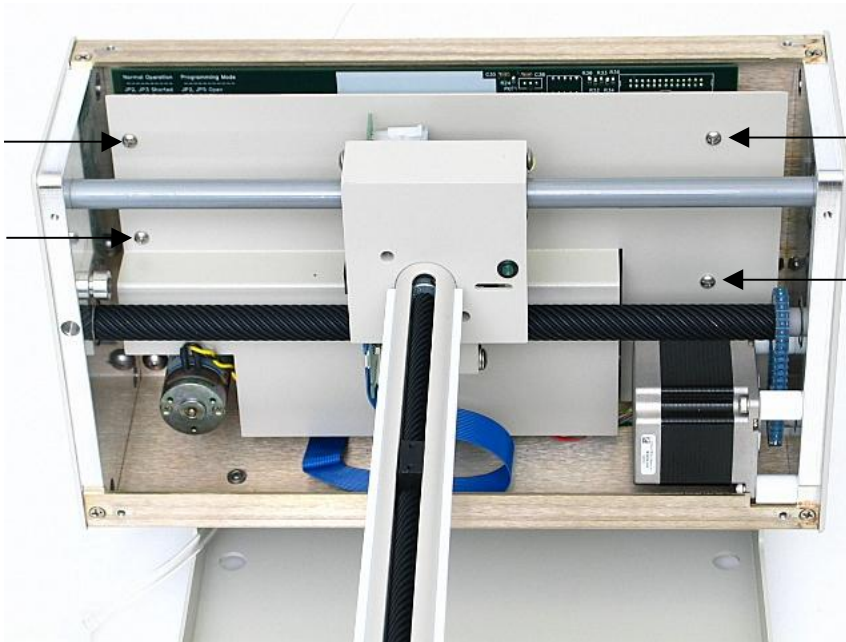

**Figure 1-7.** Front view of ASX-260 Autosampler showing front cover screws.
6. Next, the front cover needs to be removed. Remove the four corner screws (Figure 1-7).